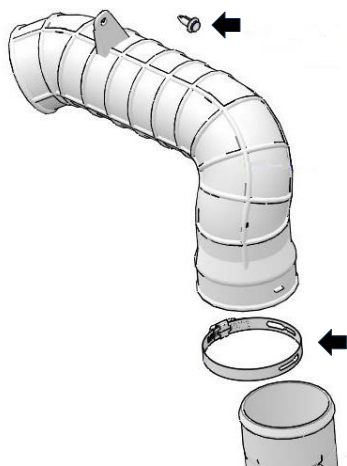

Figure 1
1. Loosen or remove the hose clamp from the clutch cover outlet, then remove the push-pin fastener at the top of the stock vent tube. Remove the vent tube. **Refer to Figure 1.**